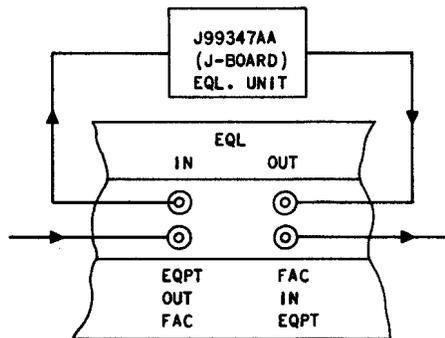

Fig. 7—Typical Transmission Circuits for Equalizing VF Data Circuits
**3.12** The J-board equalizer, either mounted in a J-board bay, in a J-board shelf, or in the logic circuit position of a 4A echo suppressor, provides equalization to meet the conditioning requirements for voiceband data facilities or alternate voice/data circuits. Four typical applications are shown in simplified form in Fig. 7. These application figures basically show how the J-board equalizer and associated equipment can be used with either 4-wire full-duplex or 2-wire half-duplex facilities to provide either pre-equalization (nearest the data transmitter) or post-equalization (nearest the data receiver) as required. Note that two J-board equalizers are required for 4-wire full-duplex (one for each direction) while only one J-board equalizer is used in half-duplex operation, for pre-equalization or post-equalization as required.
**3.16** One feature not shown by the diagrams in Fig. 7 is that if necessary equalization cannot be provided with one J-board equalizer, even with a full complement of 950-type plug-in equalizers, a second and third J-board equalizer with 950-type apparatus can be connected in series until the required conditioning is met. However, the need for more than one J-board equalizer unit is expected to be very infrequent.